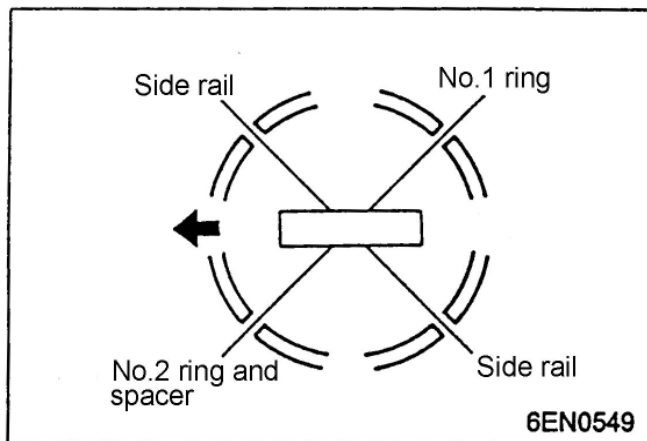

Fig.4-54
(4) PISTON AND CONNECTING ROD ASSEMBLY INSTALLATION
- b Align the gaps of the piston rings and oil ring (side rails and spacer) as shown, see Fig.4-54.